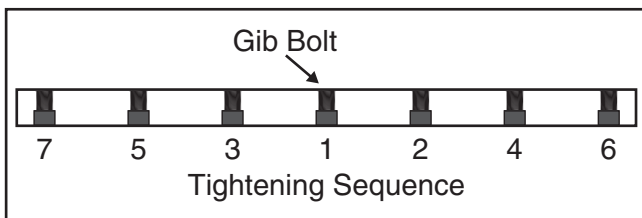

Figure 31. Gib bolt tightening sequence.
- While maintaining pressure on the knife gauge, tighten (counterclockwise) the gib bolts just enough to hold the knife in place. Start with the middle bolt and work out to the ends, as shown in **Figure 31**.